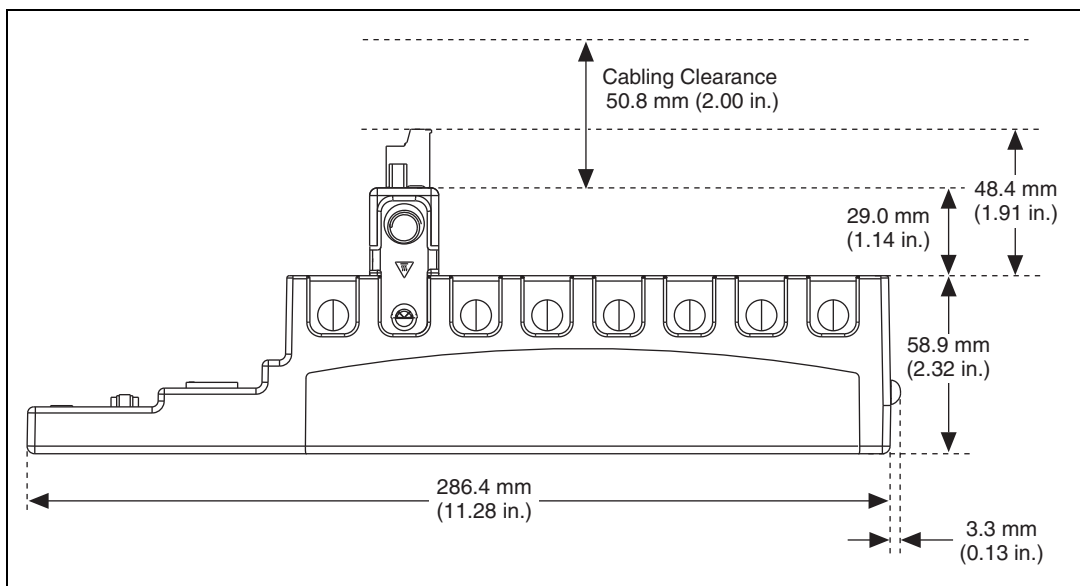

Figure 2. cRIO-9072/3/4, Bottom View with Dimensions
- Allow 50.8 mm (2 in.) in front of modules for cabling clearance for common connectors, such as the 10-terminal, detachable screw terminal connector, as shown in Figure 2.